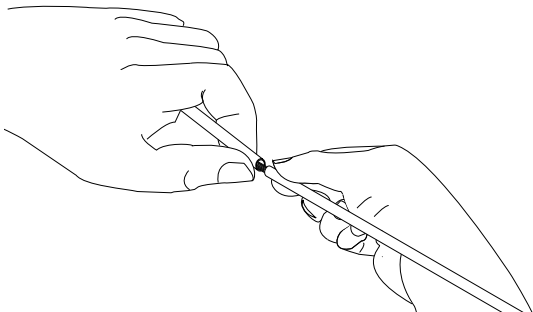

Figure 10
- e) Snap the tube at the scored area (Figure 10). Pull off the severed section of tube. **USE CARE TO AVOID DAMAGING THE FIBERS.**